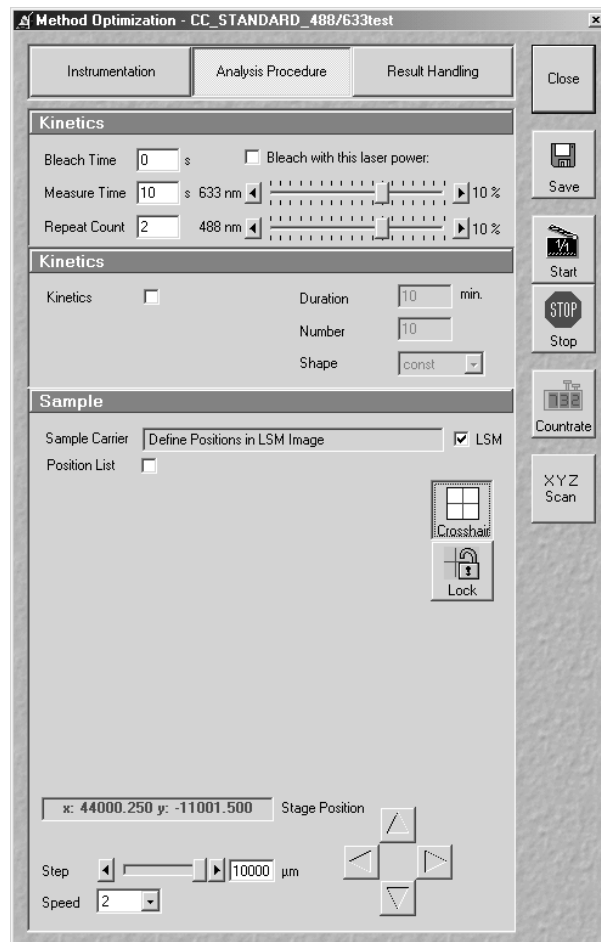

Fig. 5-405 The Method Optimization ... window in the LSM mode with the Crosshair function activated
- Click the **Crosshair** box (see Fig. 5-405).